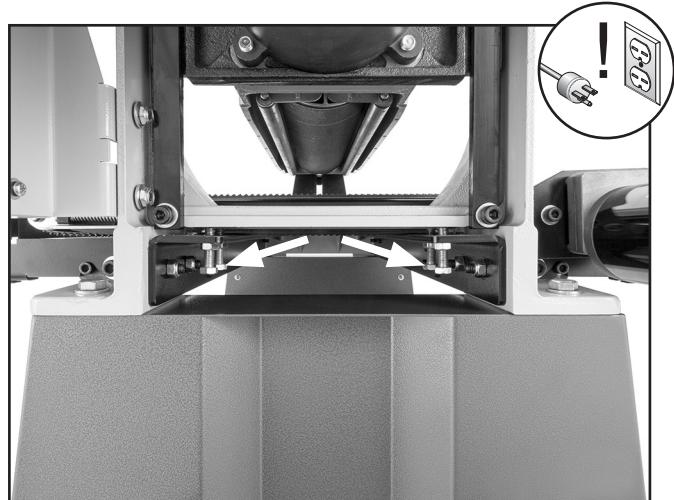

Figure 61. Adjustment hardware for right side.
- If A measurement was larger than B measurement, loosen (2) hex nuts shown in **Figure 61** and tighten (2) hex bolts until measurements are equal.